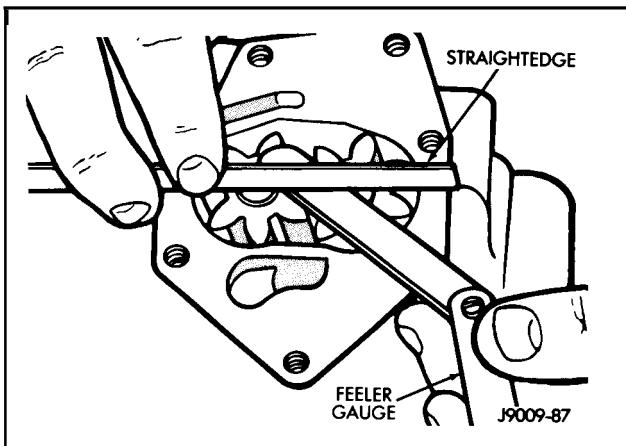

Figure 7-39
- b. Select a feeler gauge that will fit snugly but freely between the straightedge and the top of the gear (Figure 7-39). The correct clearance by this method is 0.102-0.203 mm (0.004-0.008") with 0.203 mm (0.008") preferred.